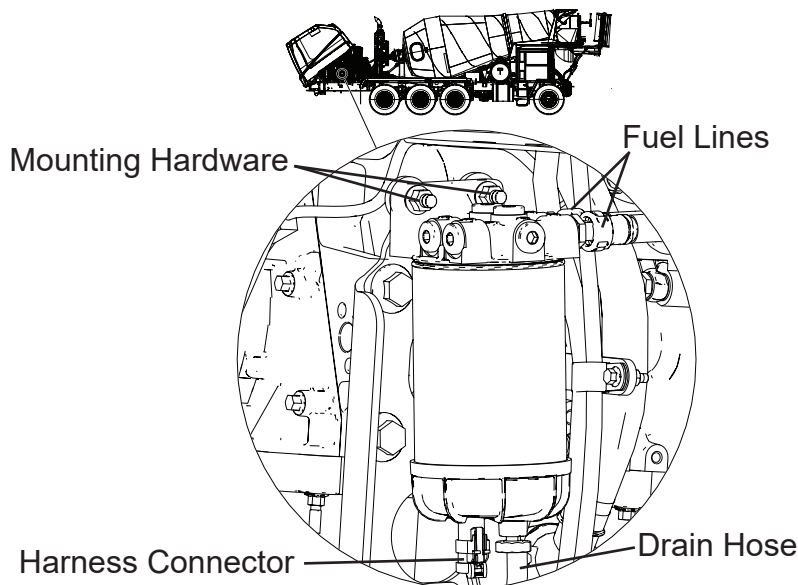

Figure 1
3. Mark location of fuel lines connected to fuel filter assembly. Disconnect two quick connect fuel lines from fuel filter assembly, see Figure 1.
4. Disconnect harness connector C59 from bottom of fuel filter assembly, see Figure 1.
5. Disconnect fuel filter drain hose from bottom of fuel filter assembly, see Figure 1.
6. Loosen and remove two mounting screws and nuts securing fuel filter assembly to front engine mount, see Figure 1. Remove filter assembly from truck. Mounting hardware will not be reused.